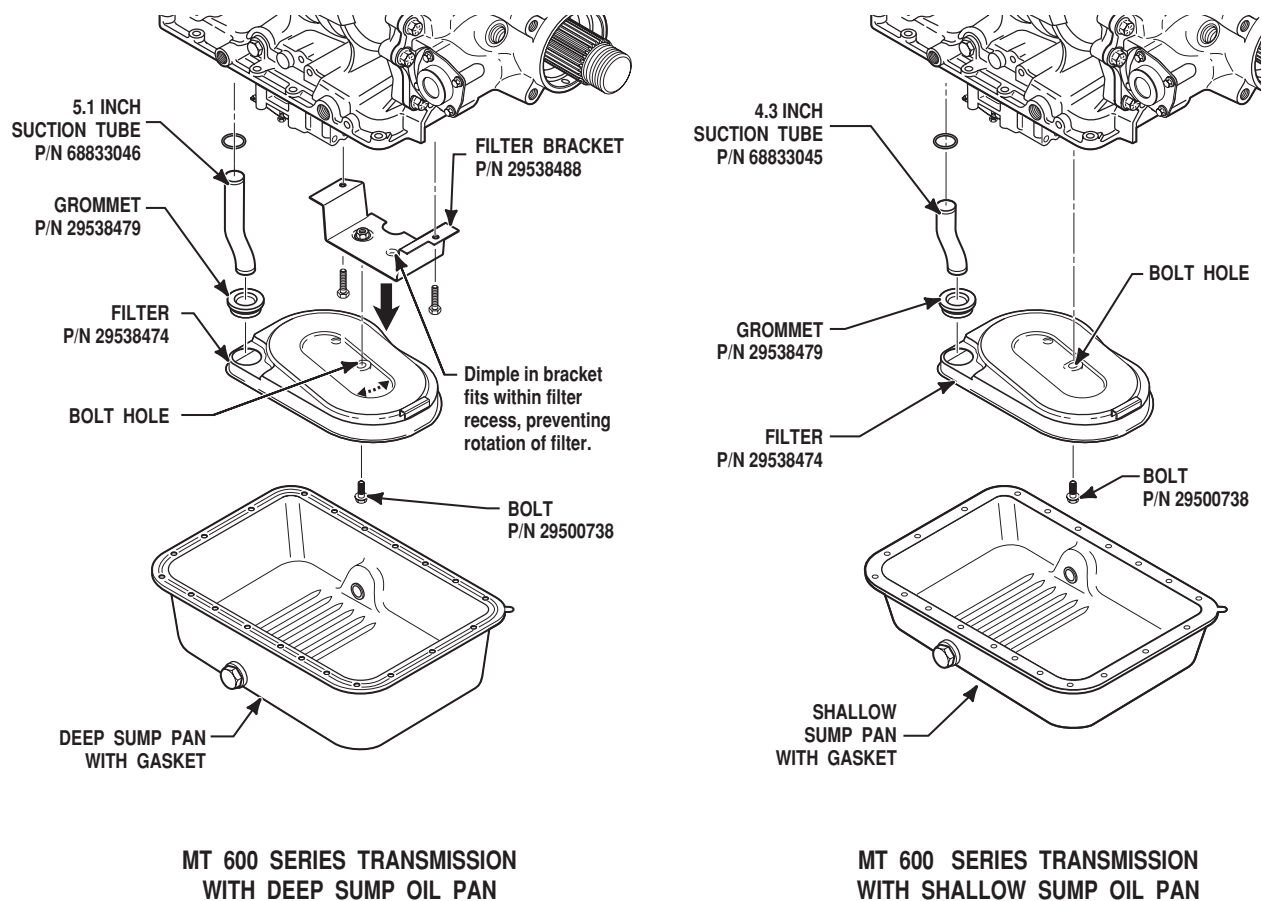

Figure 1.
7. Install the polyester filter onto the end of the suction tube and place the bolt hole in the filter over the threaded bolt hole in the filter bracket (only with the 5.1 oil pan). The dimple in filter bracket does not go into the filter dimple (only with the 5.1 oil pan, see Figure 1). When you are making the conversion on a 4.3 oil pan place the bolt hole in the filter over the threaded bolt hole in the valve body.